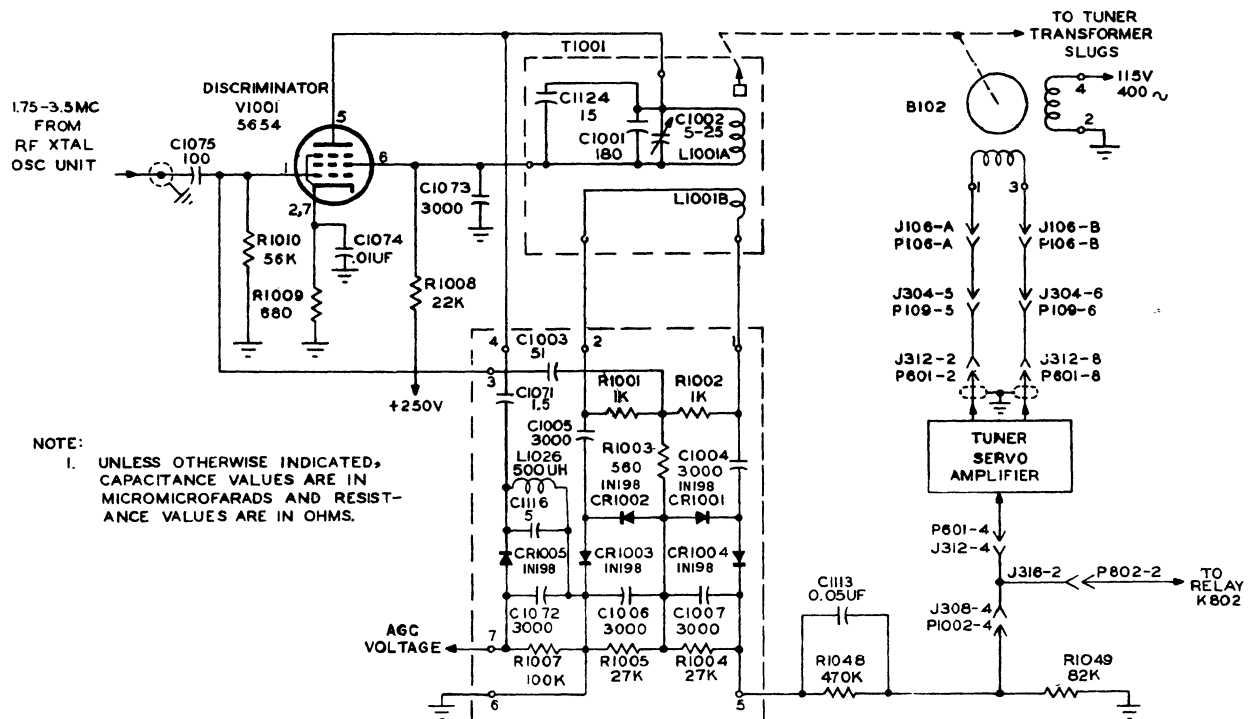
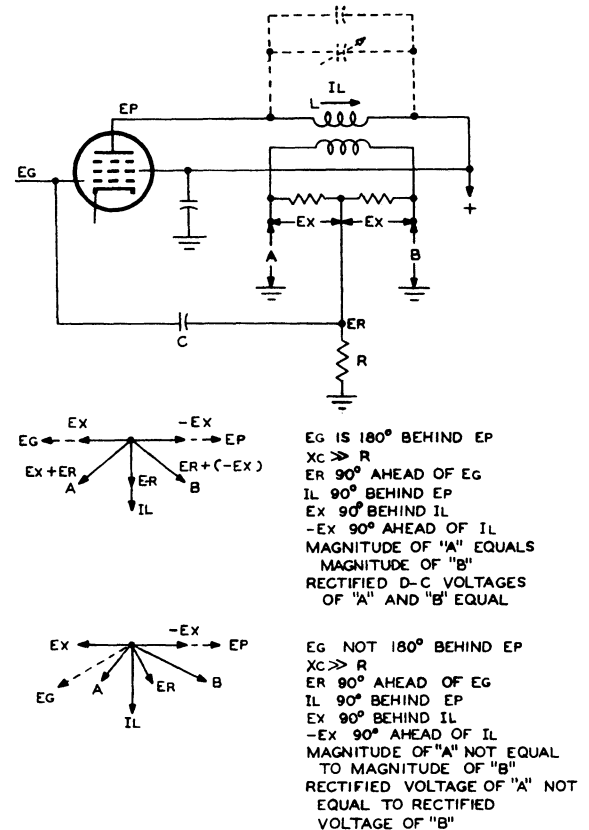

Figure 4-21. Tuner Unit, Phase Discriminator Circuit, Simplified Schematic Diagram
Figure 4-22. Tuner Unit Phase Discriminator,
4.9.3.5.2 PHASE DISCRIMINATOR CIRCUIT. With the slug rack centered, the phase discriminator circuit now functions. A simplified schematic diagram of the circuit is given in figure 4-21. One of the crystals in the r-f crystal oscillator has been selected previously by operation of the Remote Control Unit. Oscillator output for this particular crystal is fed through capacitor C1075 to the control grid of discriminator tube V1001. This voltage is amplified and appears across a tuned circuit in the plate of V1001. A Foster-Seeley type discriminator circuit is coupled to the grid and plate of V1001. Operation of this discriminator circuit is based upon the fact that the grid and plate voltages of V1001 are 180 degrees out of phase at resonance. The circuit consists of the secondary of transformer T1001 (L1001B), crystal diodes CR1001 through CR1004, and associated resistors and capacitors. The phase relationship of the grid and plate voltages is sampled, and variations from 180 degrees appear as a d-c control voltage in the discriminator output. A functional diagram of the discriminator and of its phase relationships is shown in figure 4-22.